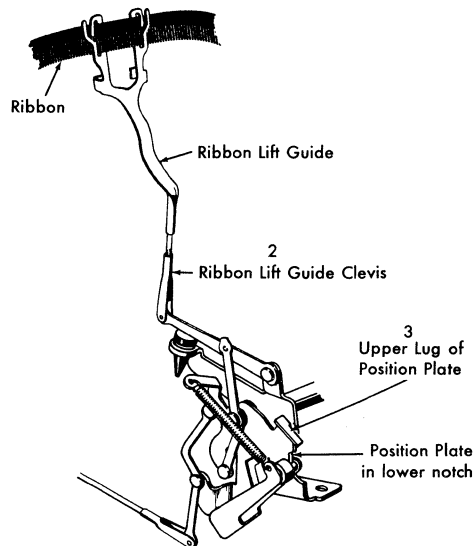

Figure 53. Ribbon Tracking Adjustments
2. Adjust the ribbon lift guide clevis so that the tops of tallest characters strike $\frac{1}{32}$ " below the upper edge of the ribbon when the ribbon lift is at its lowest, or black, setting (Figure 53).
3. Form upper lug of positioning plate so that the diagonal strikes about $\frac{1}{32}$ " from the bottom edge of the ribbon when ribbon lift is at its highest (red) setting (Figure 53).